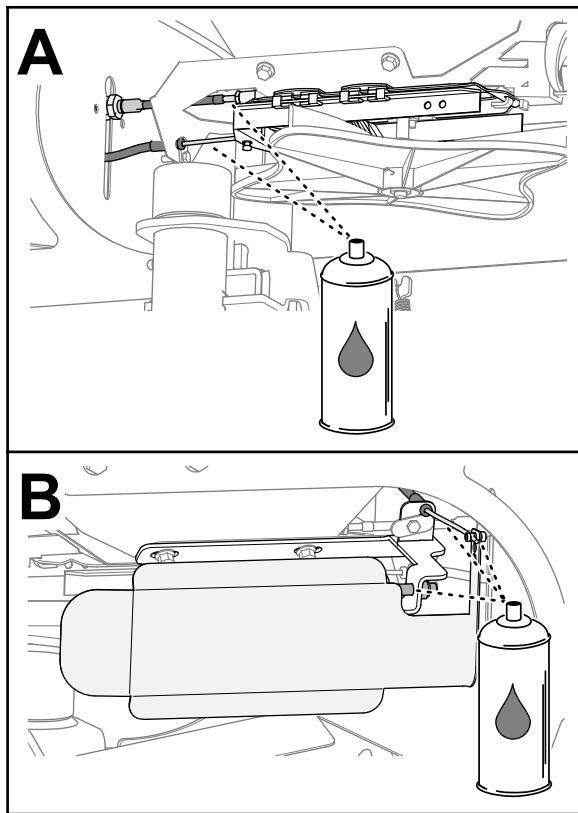

Figure 49
1. Apply water-displacing lubricant to the control cables and pivot points as shown in Figure 49.